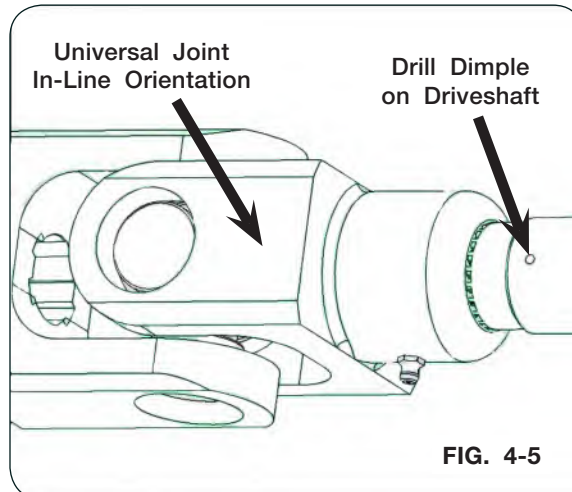

FIG. 4-5
12. With bearing mounting hardware loosely tightened, drill a setscrew dimple in the driveshaft by going through the bearing setscrew threaded hole to dimple the driveshaft being careful to not damage threads. Drill the dimple to a depth that setscrews are flush with the bearing prior to applying thread locker and installing setscrews. (FIG. 4-5)
13. For alignment of the yoke, the orientation of the universal joint at the gearbox must be in line with the driveshaft drill dimple when the driveline assembly is attached. (FIG. 4-5, 4-6, and 4-7)
Rotate auger 360 degrees to ensure it is centered on the drive bushing weldment (286436) and the five pins are engaged with auger end. Check for flighting interference or binding along housing and at lower end. A portion of flighting may need to be removed from lower end of auger to ensure operational clearances. (Fig. 4-4 & Fig. 4-5)